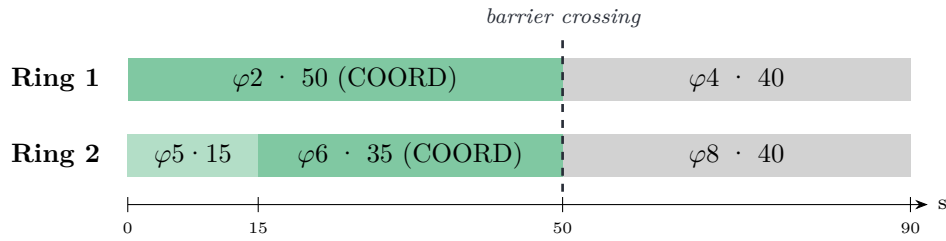

Figure 9: The same plan as Figure 8 as ring timelines. φ_5 is forced off at 15 s and φ_6 comes up; both rings cross to the side street together at 50 s.
2. **Match concurrent groups across rings** so companion phases open together: in Figure 9, $\varphi_5 + \varphi_6 = \varphi_2 = 50$ and $\varphi_8 = \varphi_4 = 40$. Mismatched groups make the rings hit the barrier at different times, and one direction sits dark waiting.